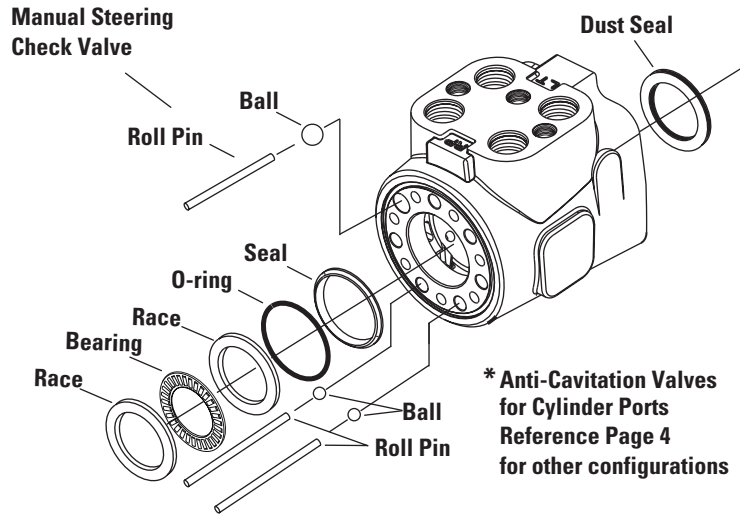

Figure 6
17. Carefully remove bearing and races, anti-cavitation valves and manual steering check valve (roll pin and ball) from bolt holes by tipping housing Gerotor side down. (see figure 6).